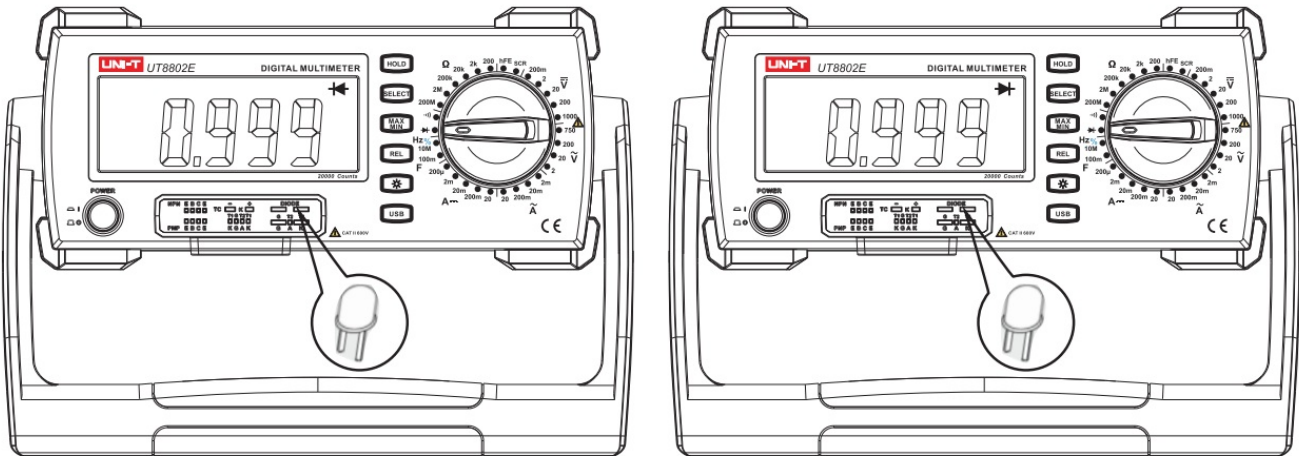

Figure 9
Measurement of Diode (see Figure 8, Figure 9)
1. Insert adaptor UT-S03A into where it is required to be loaded on the instrument (Figure 9).